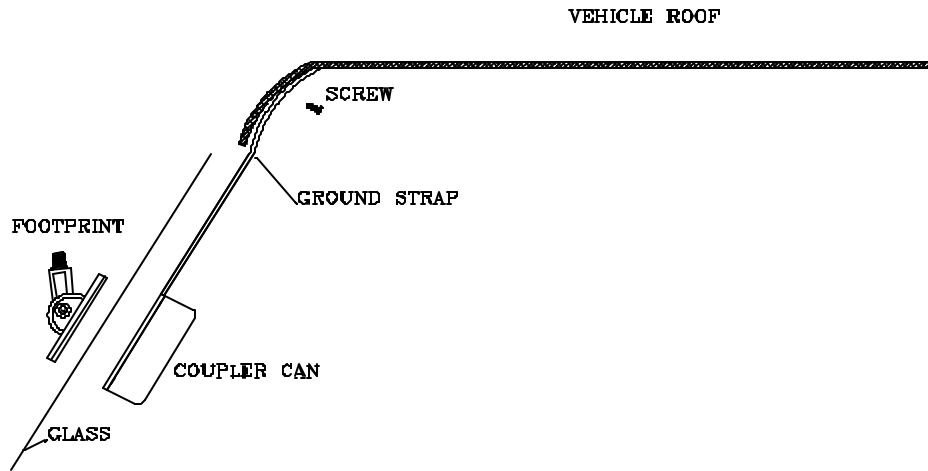

Figure 2 – Locating Grounding Strap
**Placement:** Select desired location on inside of window for coupling box so that the grounding strap makes contact with metal from the roof (Refer to Figure 2 – Locating Grounding Strap).